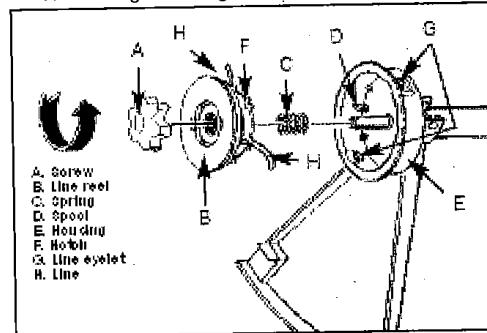
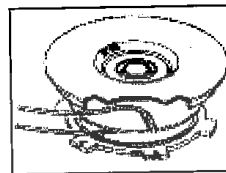

Fig. 9A
Fig. 9B
1. Remove screw (A) counterclockwise (Fig. 9A). Use a screwdriver if necessary.
2. Remove line reel (B) and spring (C) from spool (D).
3. Remove the remaining cutting line (H).
4. Insert a cutting line with a length of 14' (4.3m) and a diameter of .080" (2mm). Insert loop end to line reel notch (Fig. 9B).